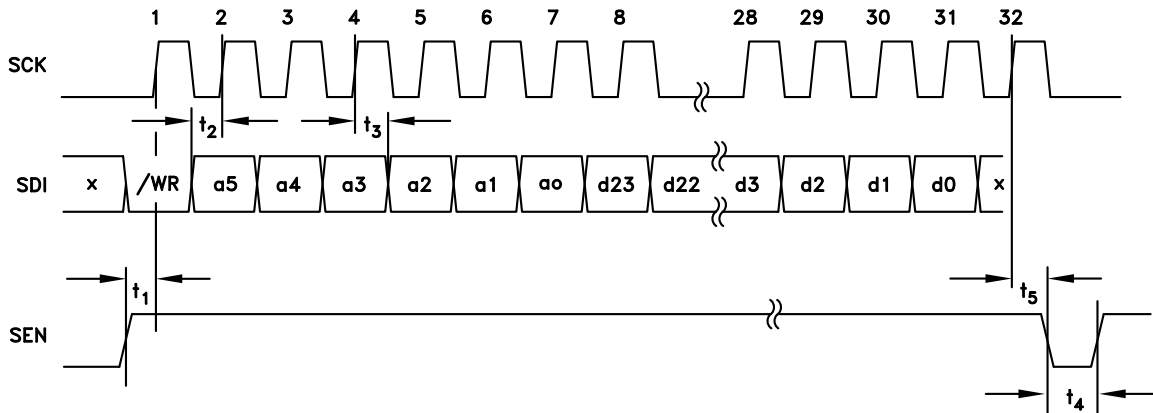
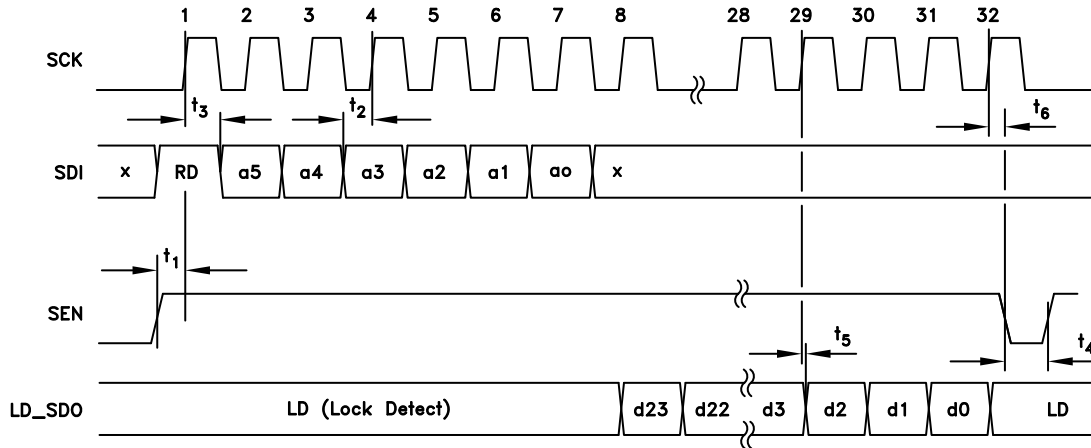

Figure 24. HMC Mode - Serial Port Timing Diagram - WRITE
Figure 25. HMC Mode - Serial Port Timing Diagram - READ
The HMC Mode protocol, shown in figures Figure 24 and Figure 25, is designed for a 4 wire interface with a fixed protocol featuring
A typical HMC Mode WRITE cycle is shown in Figure 24.
A typical HMC Mode READ cycle is shown in Figure 25.
- a. The Master (host) asserts both SEN (Serial Port Enable) and SDI to indicate a READ cycle, followed by a rising edge SCLK. Note: The Lock Detect (LD) function is usually multiplexed onto the LD_SDO pin. It is suggested that LD only be considered valid when SEN is low. In fact LD will not toggle until the first active data bit toggles on LD_SDO, and will be restored immediately after the trailing edge of the LSB of serial data out as shown in Figure 25.
- b. The slave (PLL with Integrated VCO) reads SDI on the 1st rising edge of SCLK after SEN. SDI high initiates the READ cycle (RD)